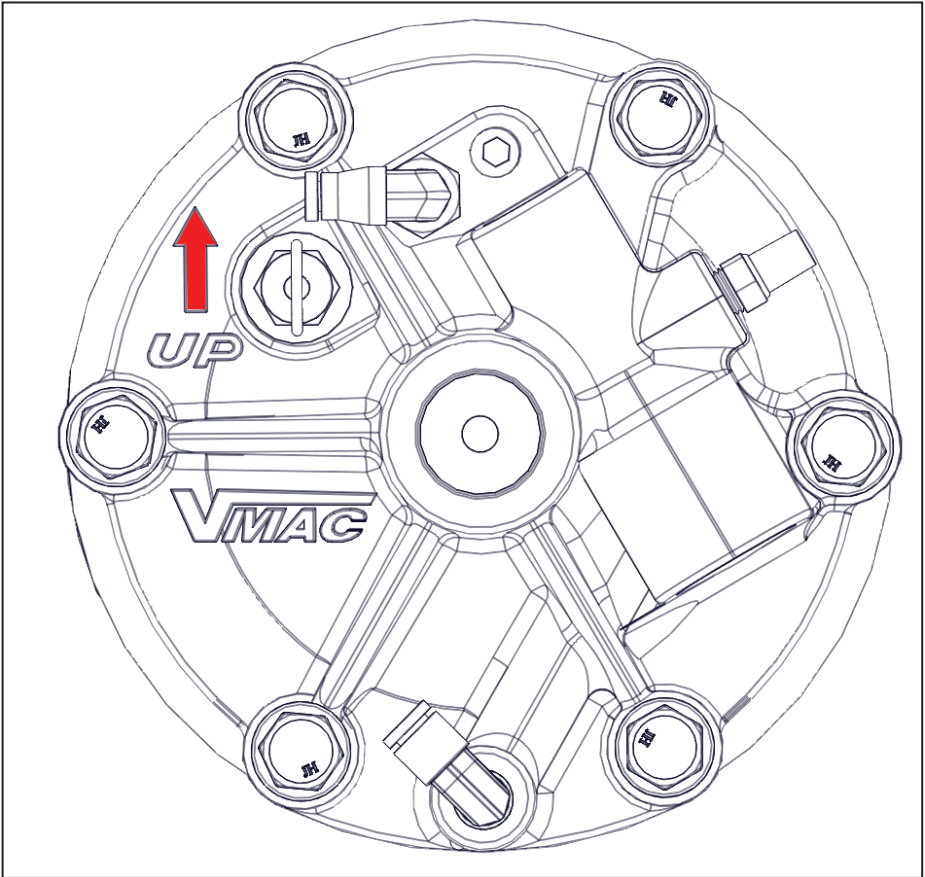

Figure 61 — Securing the AOST (Rear view)
- ☐ Rotate the tank so that the directional arrow on the rear of the tank is pointing upwards (Figure 61).